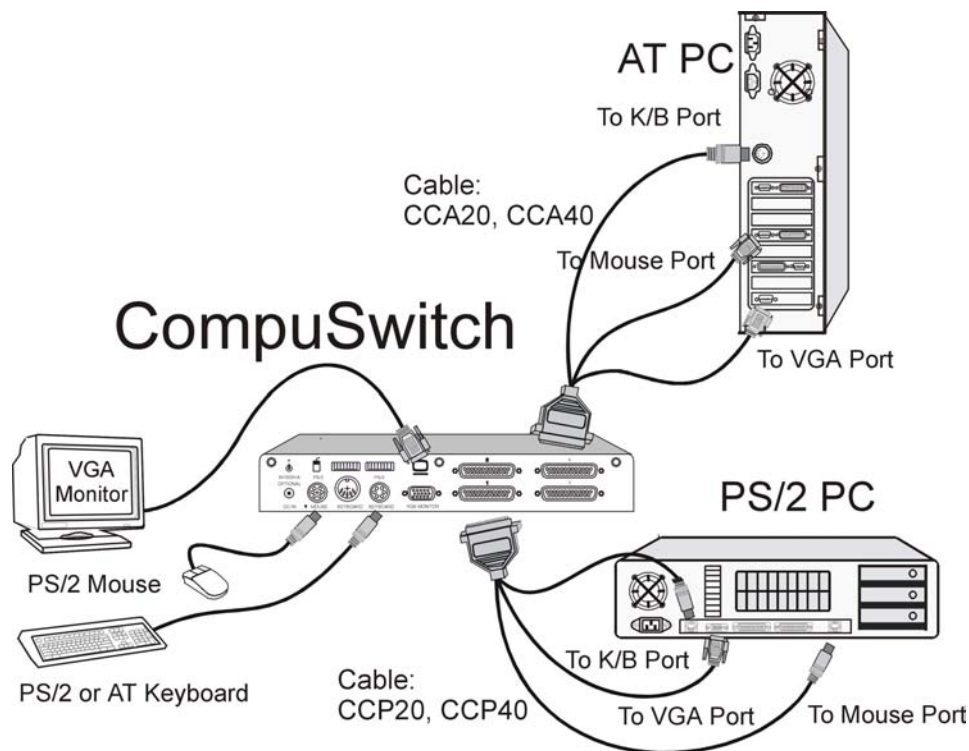

Figure 5. Cabling details
2. Using the appropriate CompuSwitch cable, connect the 25-pin connector to any channel on the CompuSwitch back panel (figure 5).